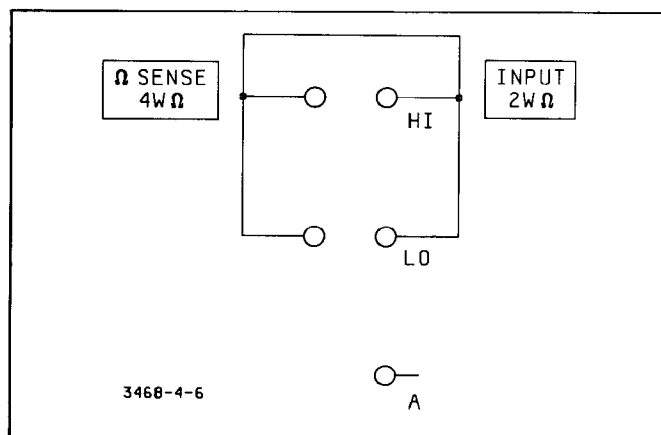

Figure 4-6. 4-Wire Ohms Test Connection
4-72. If the 3468A/B is to be tested in the 2-Wire Ohms Function, all test resistors are applied to the 3468A/B's INPUT Terminals. If the 4-Wire Ohms Function is to be tested, short the INPUT Terminals or connect the test resistors as shown in Figure 4-6 and Figure 4-7, respectively.
b. (Step #2.) Set the 3468A/B to the desired Ohms Function (see paragraph 4-70). If the 2-Wire Ohms Function is to be tested, short the INPUT Terminals. If the 4-Wire Ohms Function is to be tested, short the SENSE Terminals and the INPUT Terminals, as shown in Figure 4-6. Check the reading on the 3468A/B's display and record the reading on the Test Card.